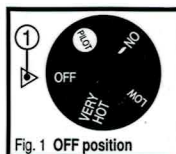

Fig. 1 OFF position
- 5) Start from the "OFF" position (Fig.1). Rotate the control knob counter-clockwise ⤴ to the "PILOT" position.
- 7) Continue to hold down the ignition button "PILOT" for about one (1) minute after the pilot is lit. If it goes out repeat steps 2-7.
- 2) Turn the control knob clockwise ⤵ to the "OFF" position (Fig.1).